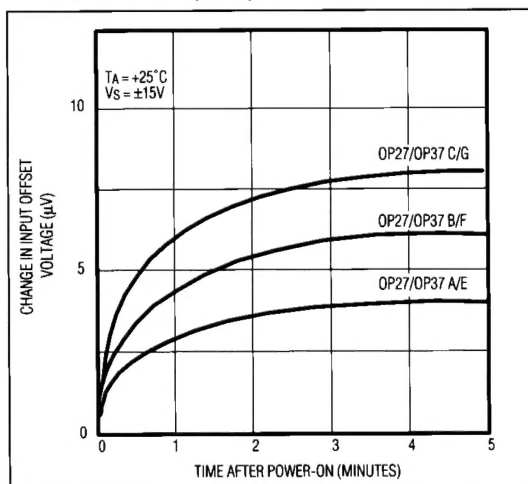

Figure 5. Warm-Up Offset Voltage Drift
1. The device must warm up for at least five minutes. Figure 5 shows how VOS typically increases 4μV with increases in chip temperature after power-up. In the 10sec measurement interval, temperature-induced effects can exceed 10nV.